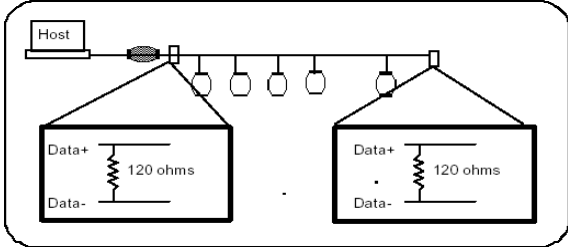

Figure A-2 Terminator Connection
7. To prevent signal reflection, add a 120 Ohm resistor to the last module (see Figure A-2).